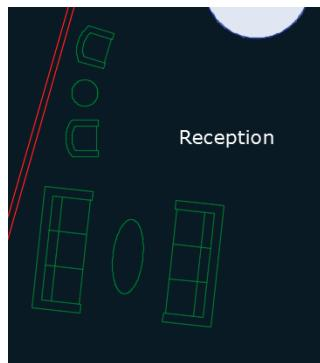

FIGURE 9.13 Two local block references redefined with a global block
7. The two sofas in Reception are redefined with the straight-back design (see Figure 9.13). Press Esc to cancel the **INSERT** command; you do not need to insert a new block reference.